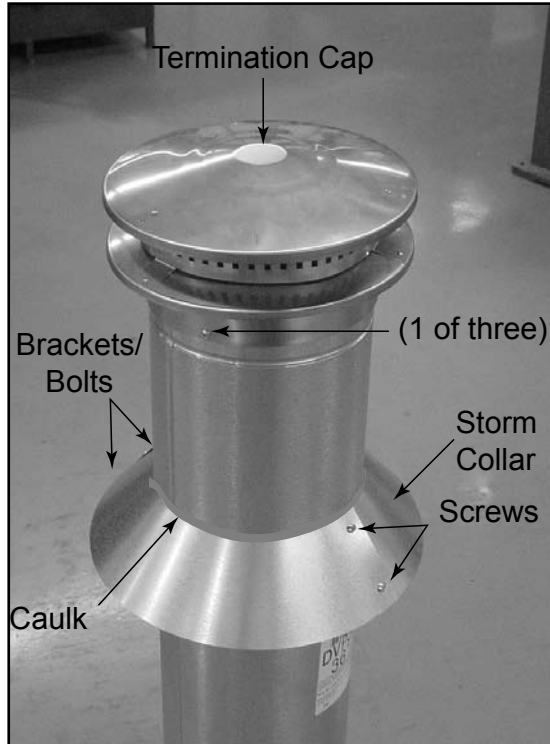

Figure 10.18
- Caulk around the top of the storm collar (see Figure 10.18).
- Secure the cap by driving three self-tapping screws (supplied) through the pilot holes in the outer collar of the cap into the outer flue of the pipe (see Figure 10.18).